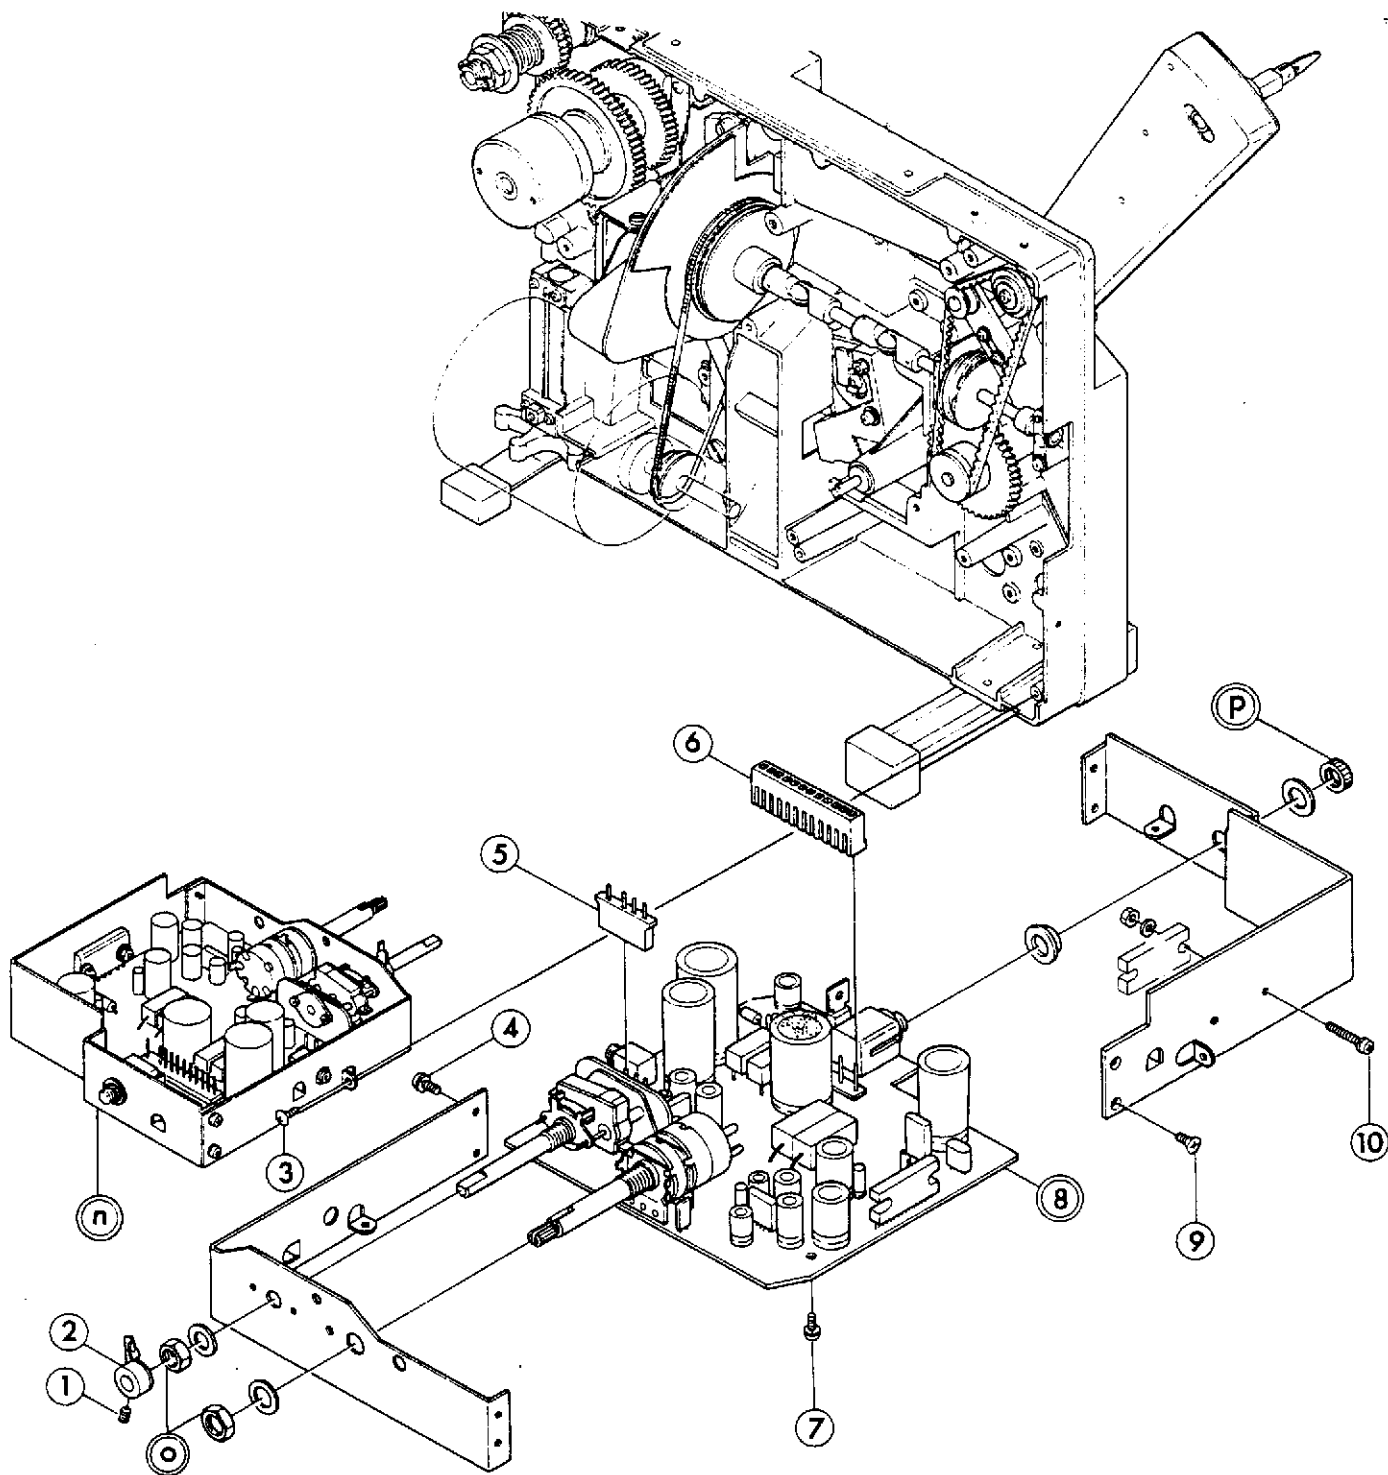

Fig. 18
- (3) Remove (n) in Fig. 18 by detaching Fig. 18-3x3.
- (4) After Fig. 18-1, 2 are detached, remove (o) in Fig. 18 by turning it counterclockwise.
- (6) Remove (p) in Fig. 18 by turning it counterclockwise.